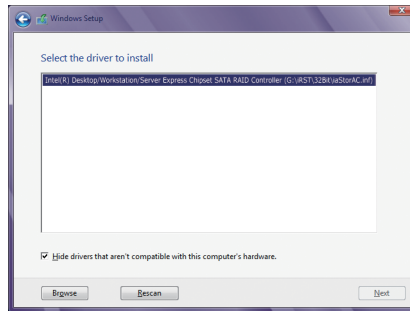

Figure 1
When a screen as shown in Figure 1 appears, select **Intel(R) Desktop/Workstation/Server Express Chipset SATA RAID Controller (G:\IRST\32Bit\UpdStrAc.inf)** and click **Next** to load the driver and continue the OS installation